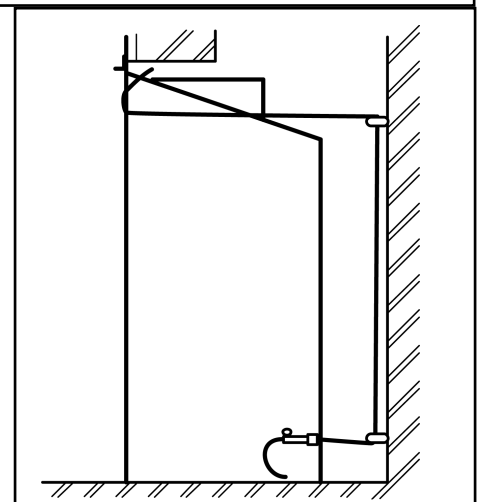

Figure 20. Cable route
6. Thread the cables through the eyebolts. Return the cables through the holes near the bottom of the convection box back panel (See figure 20) (**For precast or clay block flue systems return the cables through the slotted holes in the side of the convection box**).